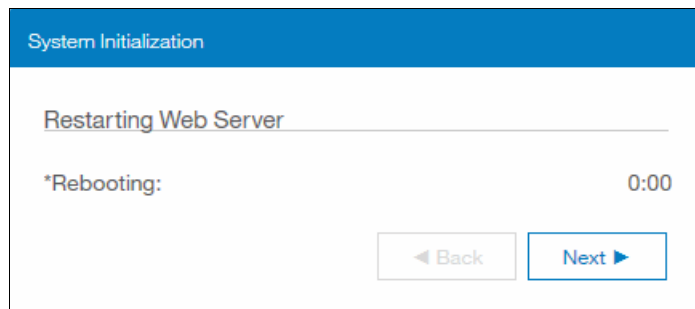

Figure 6-53 System initialization restarting web server pane with no time remaining
15. The System Initialization function implements a 5 minute timer to allow the web server to restart, When the timer reaches zero, click **Next** (Figure 6-53).